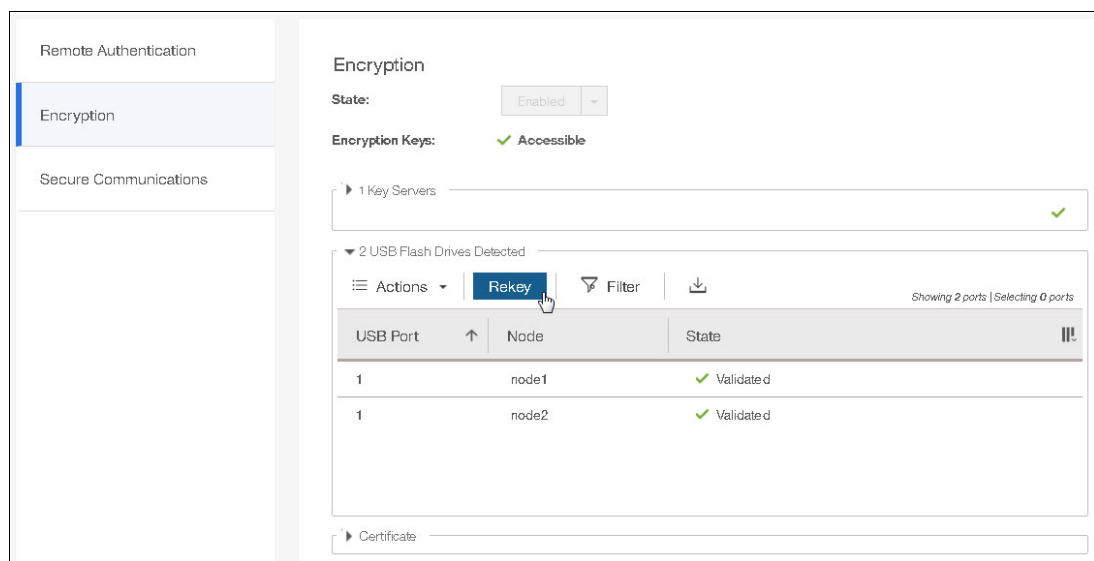

Figure 7-67 Select Rekey for USB Flash Drives
1. In the management GUI, select **Settings** → **Security** → **Encryption**. Expand USB Flash Drives to display all of the detected USB flash drives on the system and select **Rekey**, as shown in Figure 7-67.